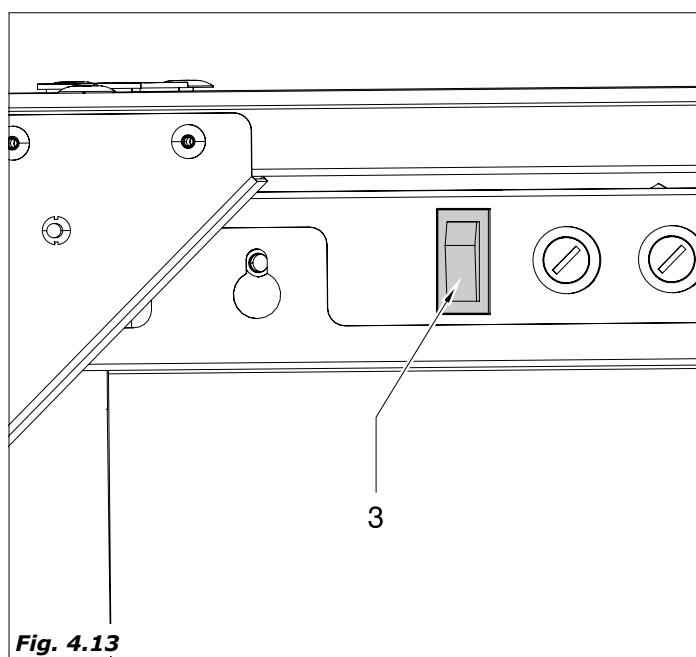

Fig. 4.13
It is possible for installation technician, to operate in this way, by inserting the special plastic key, supplied with the distributor, into the door switch and rotating it 90° (Fig.4.13-pos.3).
- insert the key in the door switch (Fig.4.13)
- Take out the key and close the faucet (Fig.4.13).